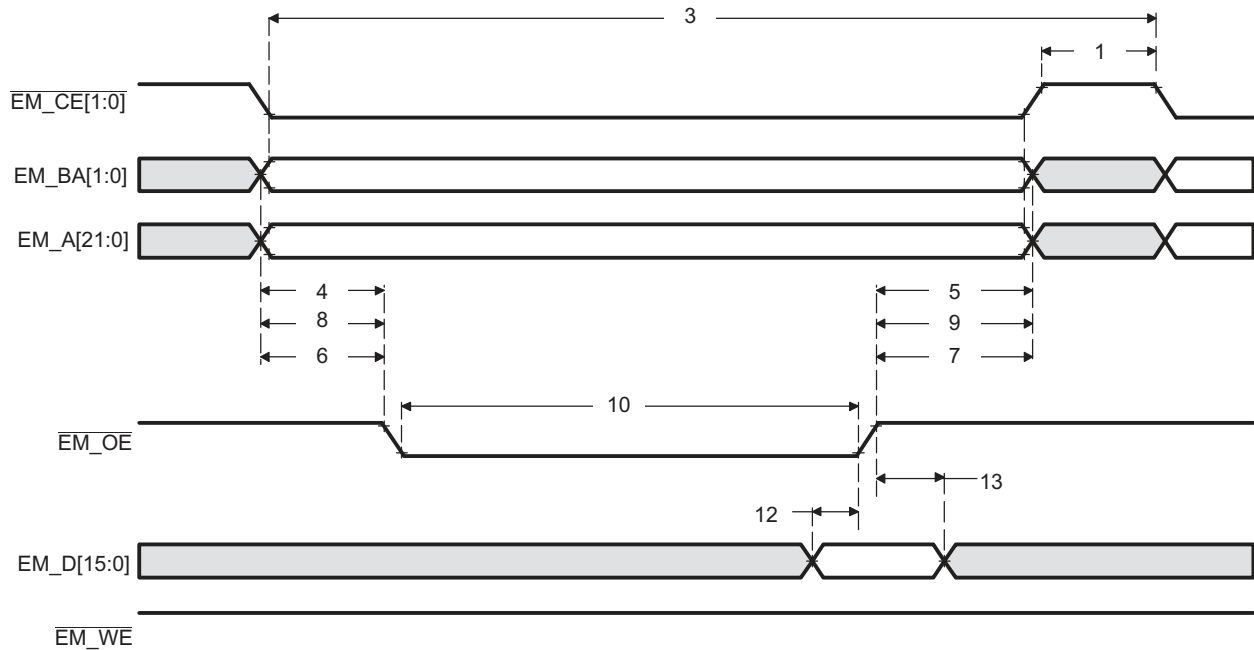
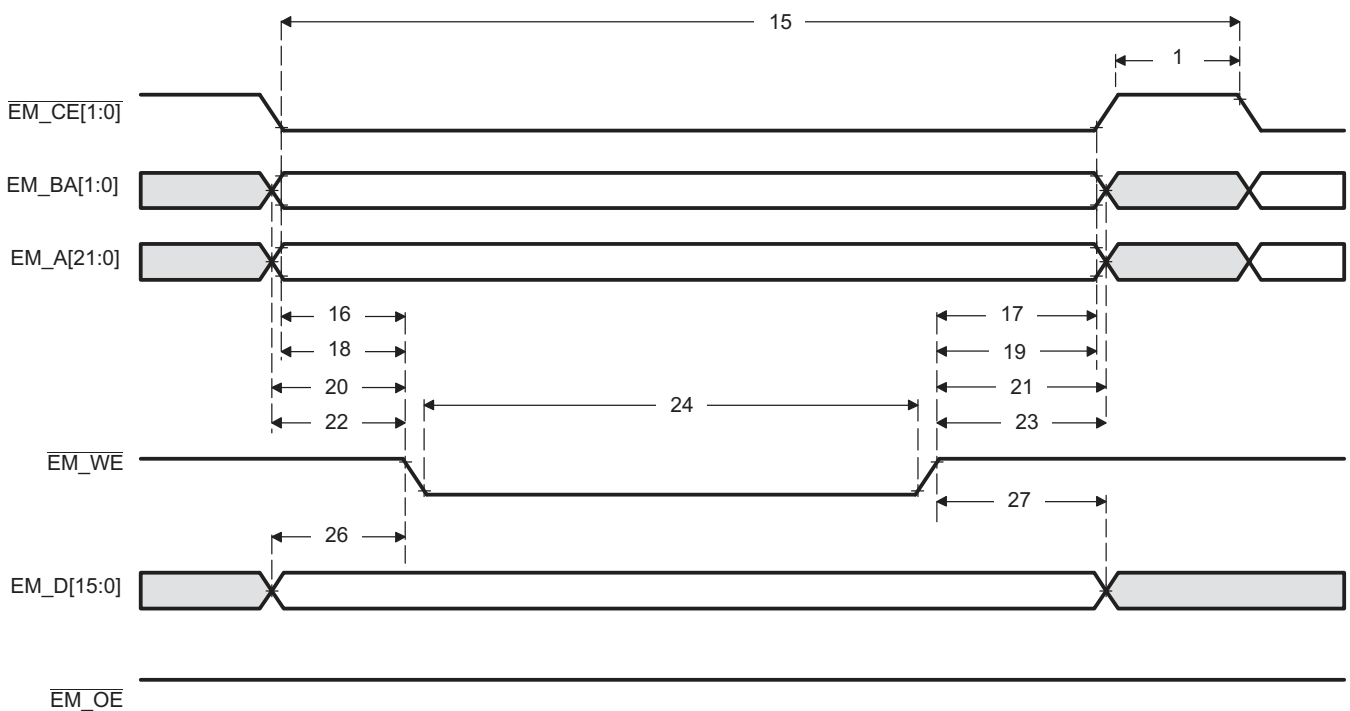

Figure 6-13. Asynchronous Memory Read Timing for EMIF
Figure 6-14. Asynchronous Memory Write Timing for EMIF
**Table 6-21. Timing Requirements for Asynchronous Memory Cycles for AEMIF Module(1) (see Figure 6-13 and Figure 6-14)**
**Table 6-22. Switching Characteristics Over Recommended Operating Conditions for Asynchronous Memory Cycles for AEMIF Module(1) (2) (3) (see Figure 6-13 and Figure 6-14)**
(1) TA = Turn around, RS = Read setup, RST = Read strobe, RH = Read hold, WS = Write setup, WST = Write strobe, WH = Write hold, MEWC = Maximum external wait cycles. These parameters are programmed via the Asynchronous Bank and Asynchronous Wait Cycle Configuration Registers. These support the following range of values: TA[4-1], RS[16-1], RST[64-1], RH[8-1], WS[16-1], WST[64-1], WH[8-1], and MEW[1-256]. See the *TMS320DM36x DMSoC Asynchronous External Memory Interface User's Guide* (SPRUF11) for more information.
(3) EWC = external wait cycles determined by EM\_WAIT input signal. EWC supports the following range of values EWC[256-1]. Note that the maximum wait time before timeout is specified by bit field MEWC in the Asynchronous Wait Cycle Configuration Register. See the *TMS320DM36x DMSoC Asynchronous External Memory Interface User's Guide* (SPRUF11) for more information.
**Table 6-22. Switching Characteristics Over Recommended Operating Conditions for Asynchronous Memory Cycles for AEMIF Module(1) (2) (3) (see Figure 6-13 and Figure 6-14) (continued)**